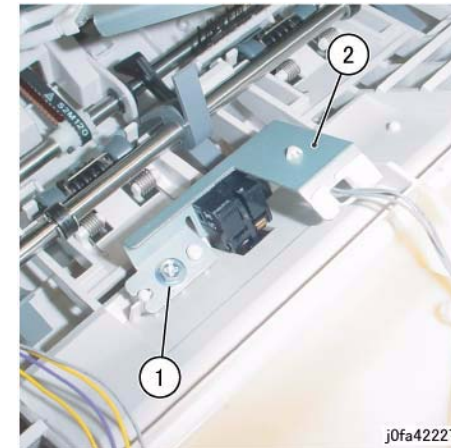

Figure 3 Removing the Compile Exit Sensor Assembly (j0fa42227)
6. Remove the Compile Exit Sensor Assembly. (Figure 3)